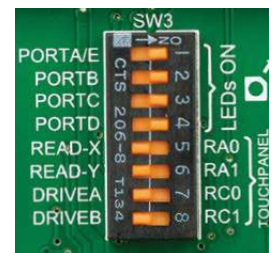

Figure 10-6: SW3.1 through SW3.4 switches are used to enable PORT LEDs
current value specified by the manufacturer. The current varies from 0.2mA to 20mA, depending on the type of the LED and the manufacturer. The EasyPIC™ v7 board uses low-current LEDs with typical current consumption of 0.2mA or 0.3mA, depending of VCC voltage selection. Board contains 36 LEDs which can be used for visual indication of the logic state on PORT pins. An active LED indicates that a logic high (1) is present on the pin. In order to enable PORT LEDs, it is necessary to enable the corresponding DIP switches on **SW3** (**Figure 10-6**).